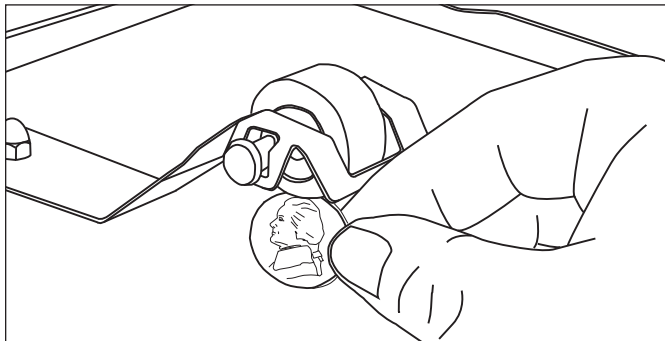

Figure 13. Measuring Roller Tensioner Assy.
1. Measure the Roller Tensioner on both inner Conveyor Covers (Figure 13). The space between the inner Conveyor Cover and bottom of the tensioner wheel should be $13/16$ " (2.1 cm) or the height of a U.S. Nickel. Adjust or replace any damaged ones as recommended.